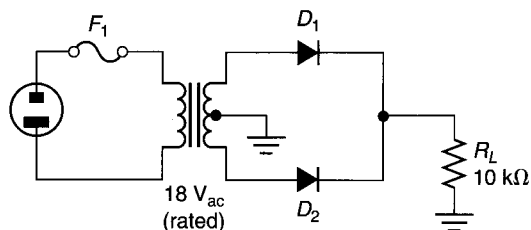

FIGURE 3.55
19. Determine the values of  $V_{L(pk)}$ ,  $V_{ave}$ , and  $I_{ave}$  for the circuit shown in Figure 3.55.
22. Determine the PIV of the circuit shown in Figure 3.55.
25. Assume that the diodes in Figure 3.55 are both reversed. Determine the new values of  $V_{L(pk)}$ ,  $V_{ave}$ , and  $I_{ave}$  for the circuit.